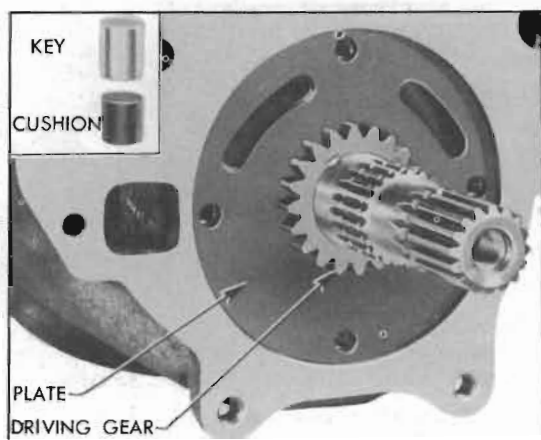

Figure 4-133—Oil Pump Driving Gear and Key Installed
2. Install oil pump drive key cushion (rubber) and drive key in output shaft, then install driving gear to engage the key. Install old gear in same position as before removal—install a new gear either way. See figure 4-133.